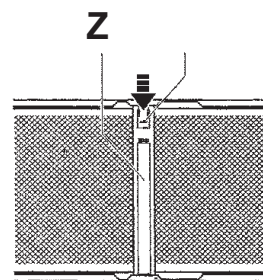

Fig. 9
- (Only EFP 936): remove central plastic strip **Z** to free the two filter panels (Fig. 9).